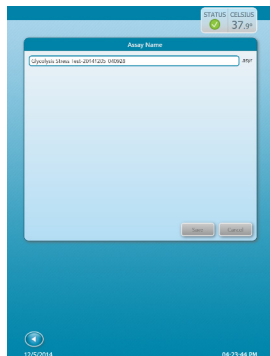

Figure 6. Assay name
- a Click **Edit** next to **Assay Name** to customize the name of the assay result file. See **Figure 6** on page 21.